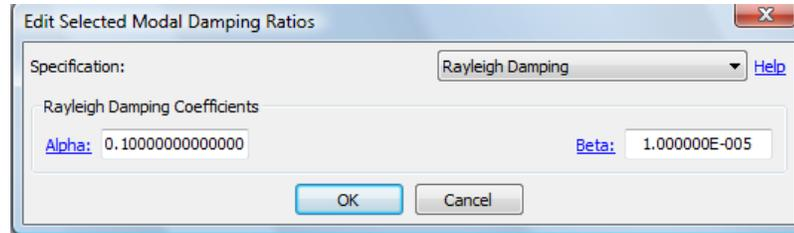

**Figure 5.18** Edit selected modal damping ratios using Frequency dependent values.
The button **Modify Damping Ratios for Selected Modes...**, when pressed, opens up a dialog box as shown in Figure 5.18. Select a method from the **Specification** drop-down menu to compute damping ratios for selected modes:
**Frequency Dependent Damping Ratio** Specify the **Frequency Dependent Damping Ratio** through any of the frequency dependent types: *Constant*, *Table*, or *Script*. See Figure 5.18. For example, to define a 5% damping ratio for selected modes, select the frequency dependence type to be *Constant* and enter a value of 0.05. You can also specify a *Table* or a *Script* to define damping ratios varying with excitation frequency. For example, a natural frequency dependent damping ratio can be defined by a script that returns the following: `return(Eval(0.05*Frequency))`. Note: the predefined variables **Frequency** or **AngularFreq** in such scripts or tables represent *natural frequencies*. Press OK to compute damping ratios and edit the table for selected modes.